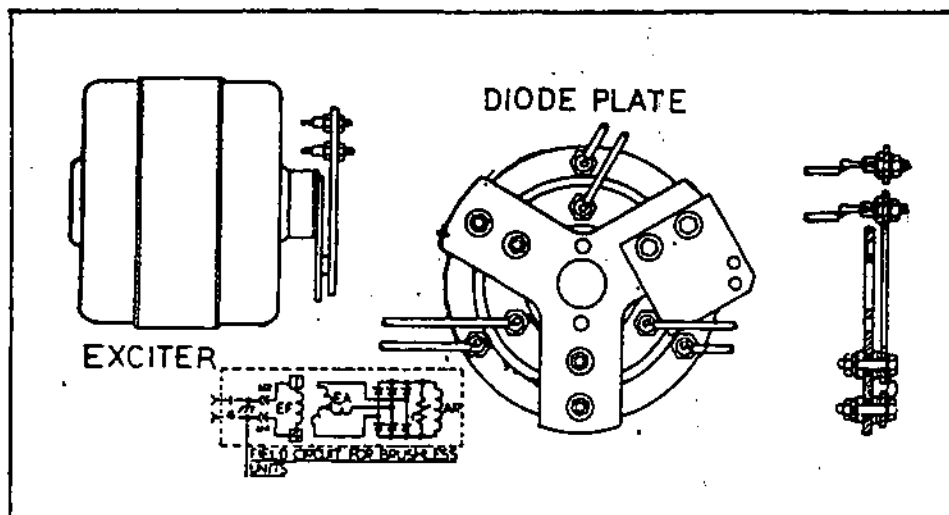

Figure 6.2-B. Diode Plate Assembly and Exciter Circuit
6.2.7- CHECK EXCITER ARMATURE (Figure 6.2-B)
6.2.8- CHECK ROTOR (FIELD)- (Figure 6.2-B)